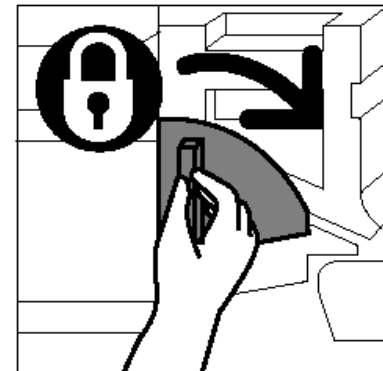

Figure 45: Locking the Copy/Print Cartridge
- 9** Rotate the Copy/Print Cartridge gold latch release clockwise to its locked position, as illustrated in Figure 45.